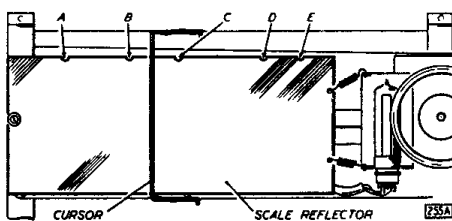

Fig. 5. Positions of alignment markers.
1. With gang at maximum capacitance, set cursor to marker **E** (see Fig. 5).